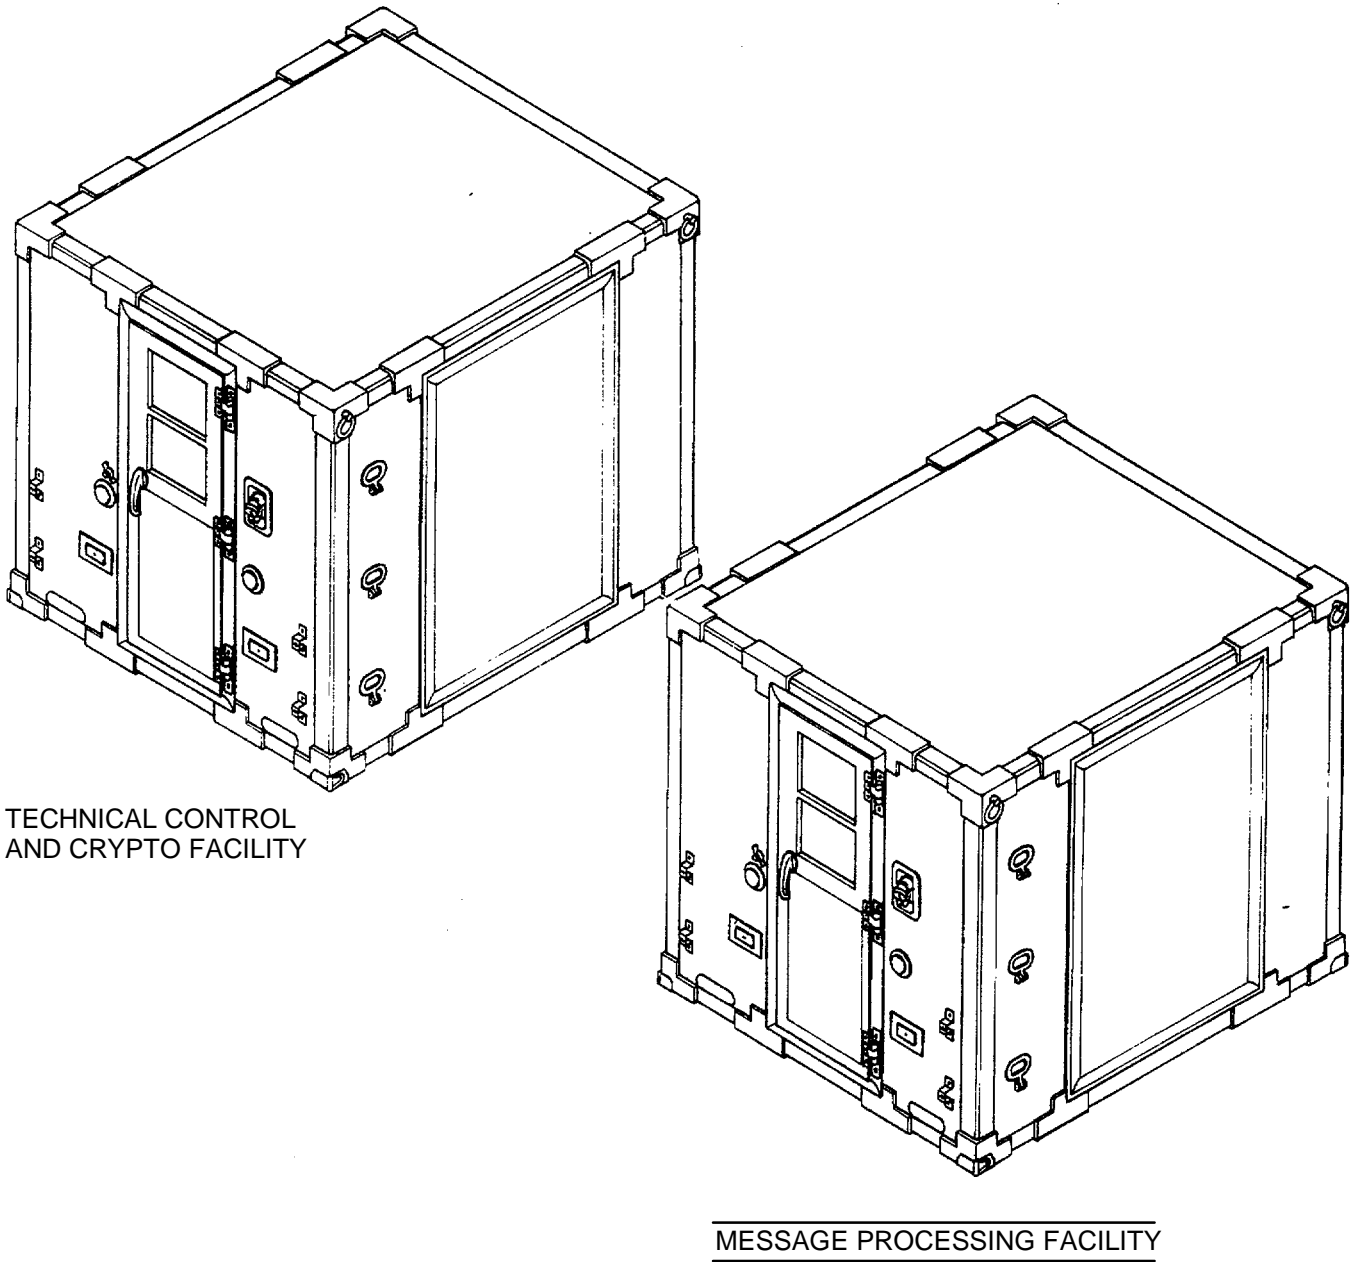

Figure 1-1. Communications Central AN/TSC-75A
**1-1 SCOPE.** This manual provides operator/crew, organizational, direct support, and general support instructions for the installation and maintenance of the Communications Central AN/TSC-75A (figure 1-1).